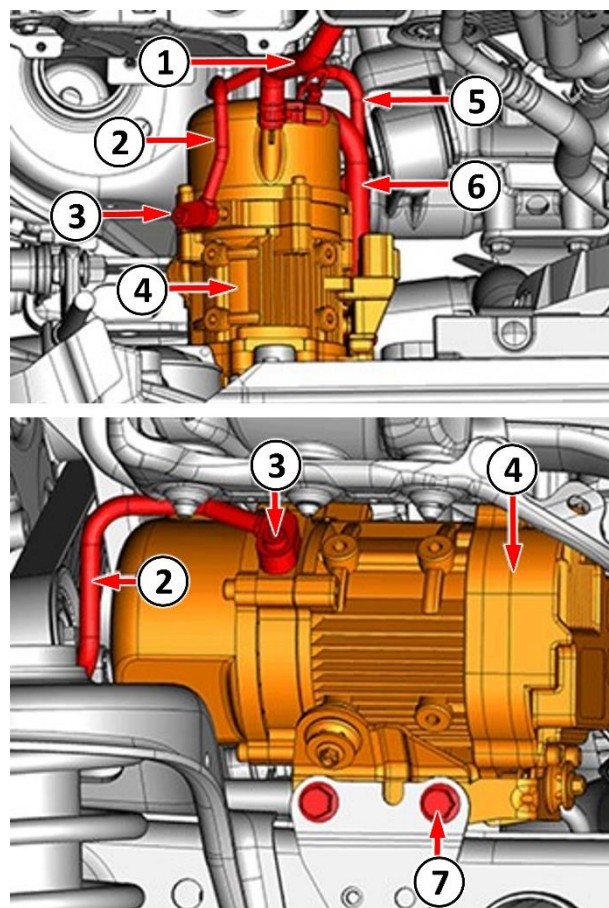

Figure A9 – EHPS Pump
25. Remove the EHPS pump pressure pipe bolt and remove the pressure pipe from the EHPS pump (Figure A9).
26. Remove the EHPS pump frame bracket bolts (Figure A9).
28. With the hose clamp released, disconnect the return hose from the EHPS pump (Figure A9).
29. With the hose clamp released, disconnect the supply hose from the EHPS pump and position the hose end higher than the power steering pump reservoir to prevent leaking while disconnected (Figure A9).
30. Remove the EHPS pump from the vehicle and set aside for return for analysis (Figure A9).